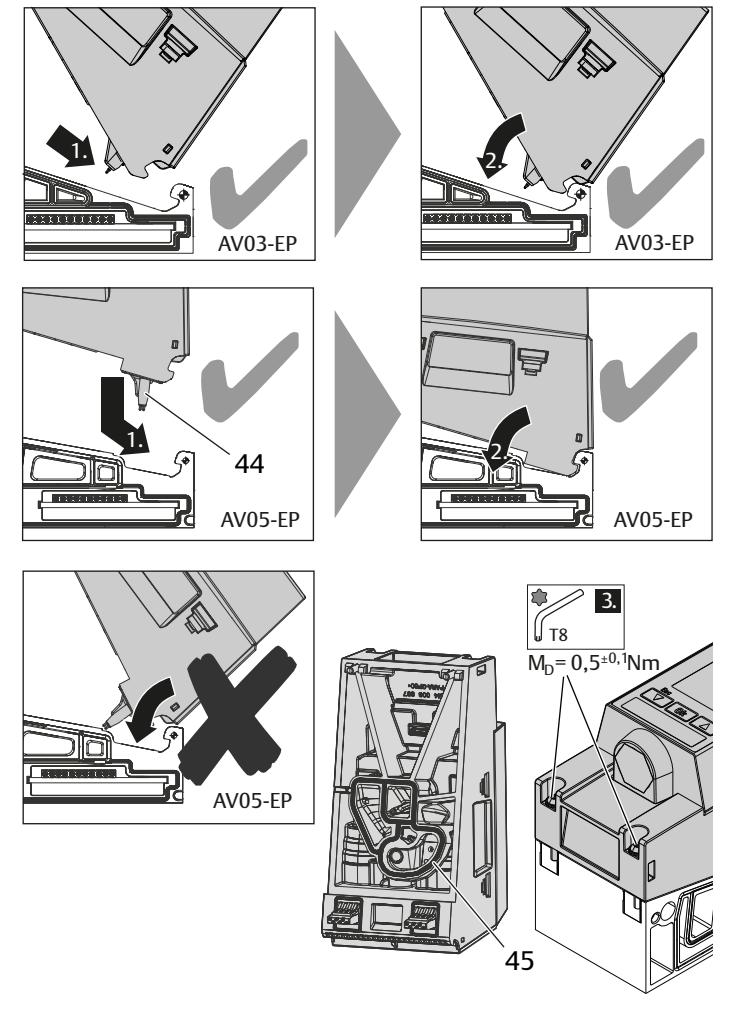

Fig. 16: Assembling the AV-EP pressure regulator on a base plate
1. Place the AV-EP on the rotational axis ♦ as follows (see Fig. 16):
2. Fold down the AV-EP so that it rests on the AV-EP base plate. Make sure the seal (45) is positioned correctly in the pressure regulator.